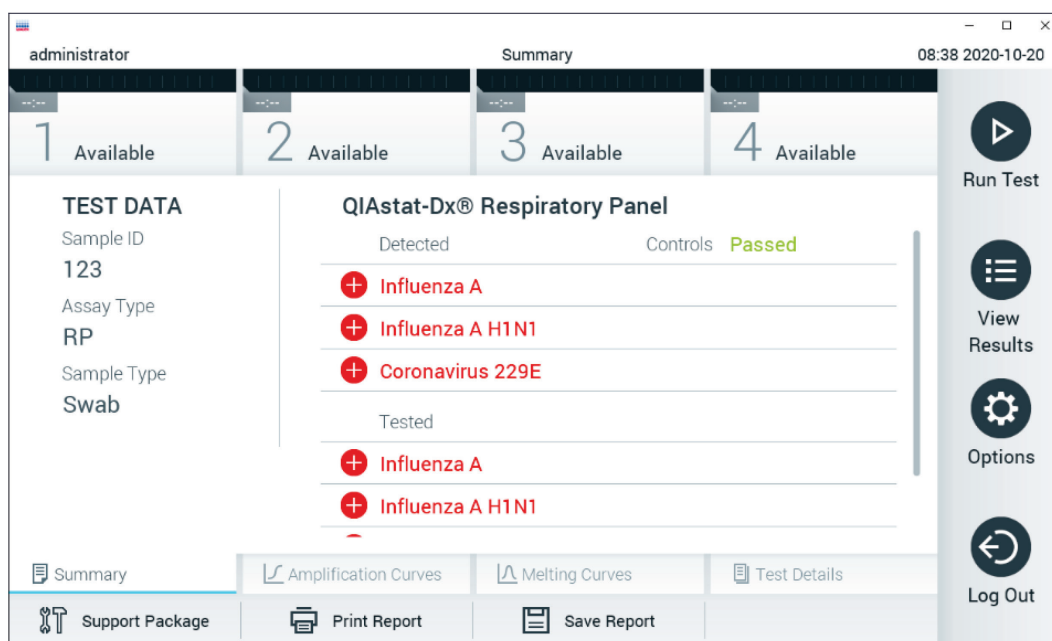

Figure 30. Results Summary screen.
11. After the QIAstat-Dx assay cartridge has been ejected, the results Summary screen will appear (Figure 30). Refer to Section 5.5 for further details.